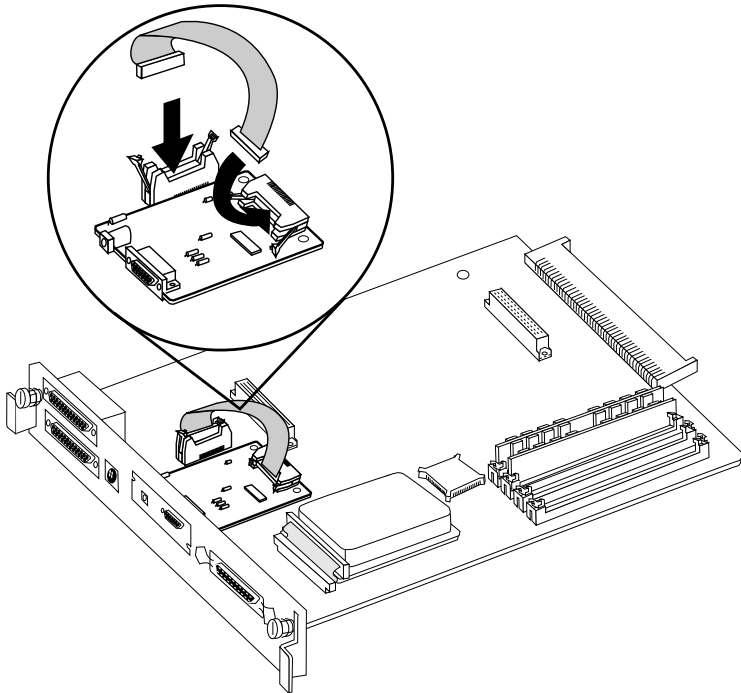

Fig. 8.19 *Connect Both Ends of the Cable*
6. Hold the plastic ribbon cable so that the notch (key) on one end faces upward and slide it onto the interface card connector (fig. 8.19). Fold the plastic ribbon cable over so that the notch (key) on the other end is facing to the right and slide it into the controller board connector to the left of the network interface card. (You may have to open the ejector latches on the connectors to be able to connect the ribbon cable.)
- c. Hold the plastic ribbon cable so that the notch (key) on one end faces upward and slide it onto the interface card connector (fig. 8.19).